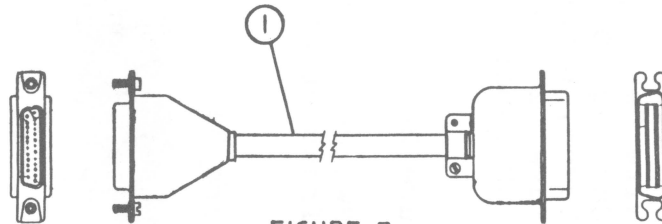

FIGURE 5
**DOT MATRIX PRINTER (Figure 5)**